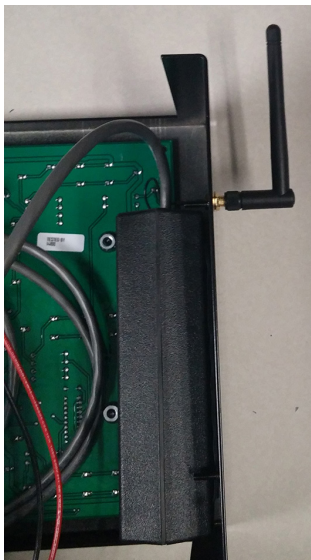

Figure 9: Radio Antenna
7. Route the brass antenna connector through the “D” hole in the side of the display cabinet. Slip on the washer and nut on the outside of the display, and then tighten the nut using a 5/16 wrench. Screw the black antenna onto the brass connector. Refer to **Figure 9**.